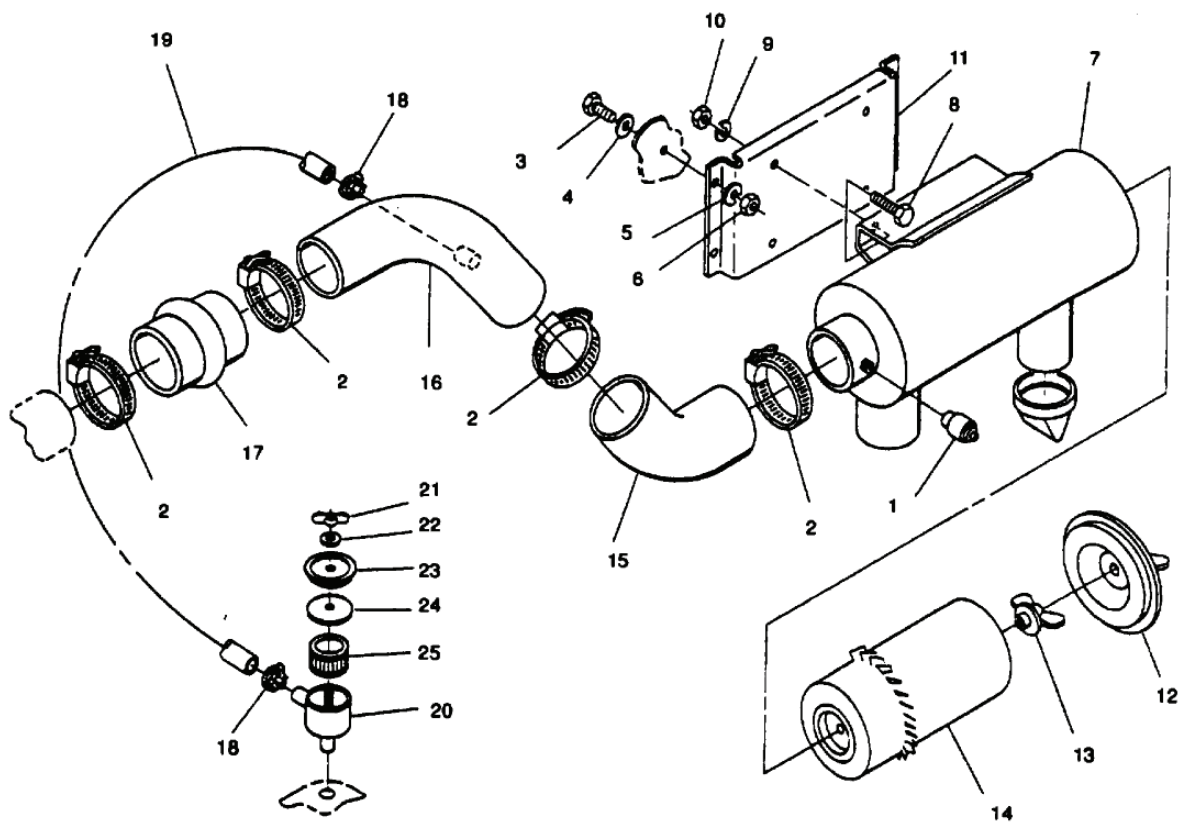

Figure 1. Air Cleaner Assembly.
4. Loosen clamp (Figure 1, Item 2) and remove hose (15) from air cleaner housing (7).
5. Remove bolts (3), washers (4), lockwashers (5), nuts (6), mounting bracket (11), and air cleaner assembly from generator set. Discard lockwashers (5).
6. Remove bolts (8), nuts (10), lockwashers (9), and mounting bracket (11) from air cleaner assembly. Discard lockwashers (9).
1. Install mounting bracket (Figure 1, Item 11) on air cleaner assembly with bolts (8), new lockwashers (9), and nuts (10).
2. Install air cleaner assembly and mounting bracket (11) on generator set with bolts (3), washers (4), new lockwashers (5), and nuts (6).
3. Install hose (15) and clamp (2) on air cleaner housing (7). Tighten clamp (2).
WP 0073, Figure 1, Items: 12 & 14
3. Loosen wing nut caged to cover (WP 0073, Figure 1, Item 12) and remove cover (12) from air cleaner housing (7).
4. Remove wing nut (13) and air cleaner element (14) from air cleaner housing (7).
3. Inspect element (WP 0073, Figure 1, Item 14) for debris and damage. Replace, as necessary.
4. Wipe inside of air cleaner housing (7) with cleaning cloth (WP 0159, Item 9).